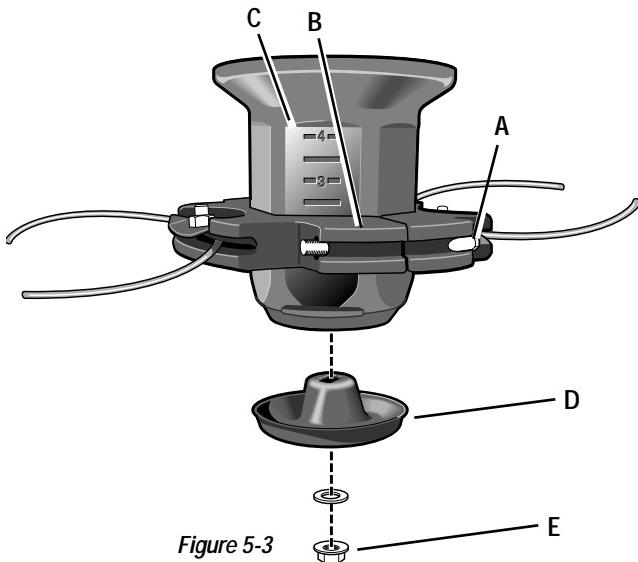

Figure 5-3
- B. Two bolts (A, Figure 5-3) secure the trimmer head (B) to the spindle head (C). Loosen both bolts (not the nuts) sufficiently to open up the trimmer head enough to let it slide down the spindle head and past the two stops. Do not attempt to remove the bolts completely—they are permanently attached.
- C. If the wear cup (D, Figure 5-3) is also worn, replace it. To do so, insert a phillips head screwdriver in the hole at the top-front of the deck while removing nut (E). Discard the old cup, position the new wear cup, and replace nut (E) securely.